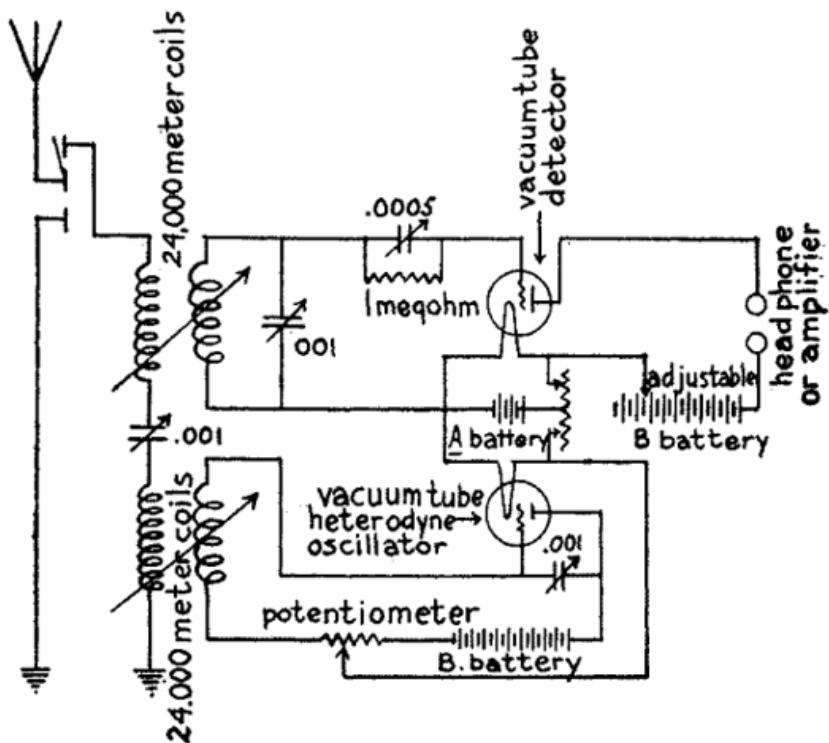

FIG. 61.—Wiring Diagram of Long Wave Separate Heterodyne Receiving Set.
The Parts and Connections of a Separate Heterodyne Long Wave Receiving Set.--The parts required for this long wave receiving set are: (1) four honeycomb or other good *compact inductance* coils of the longest wave length that you want to receive; (2) three .001 mfd. *variable condensers*; (3) one .0005 mfd. *variable condenser*; (4) one 1 megohm *grid leak resistance*; (5) one *vacuum tube detector*; (6) one *A battery*; (7) two *rheostats*; (8) two *B batteries*, one of which is supplied with taps; (9) one *potentiometer*; (10) one *vacuum tube amplifier*, for setting up the heterodyne oscillations; (11) a pair of *headphones* and (12) all of the parts for a *two-step amplifier* as detailed in Chapter IX, that is if you are going to use amplifiers. The connections are shown in *Fig. 61*.